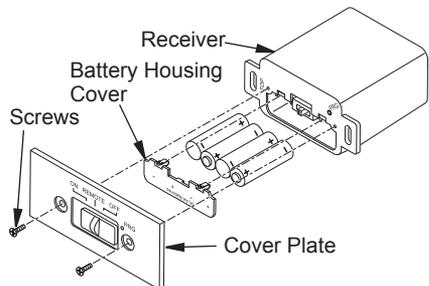

Figure 35 - Battery Install Remote Control Receiver
- Attach cover plate to receiver with 2 screws as shown in Figure 35.